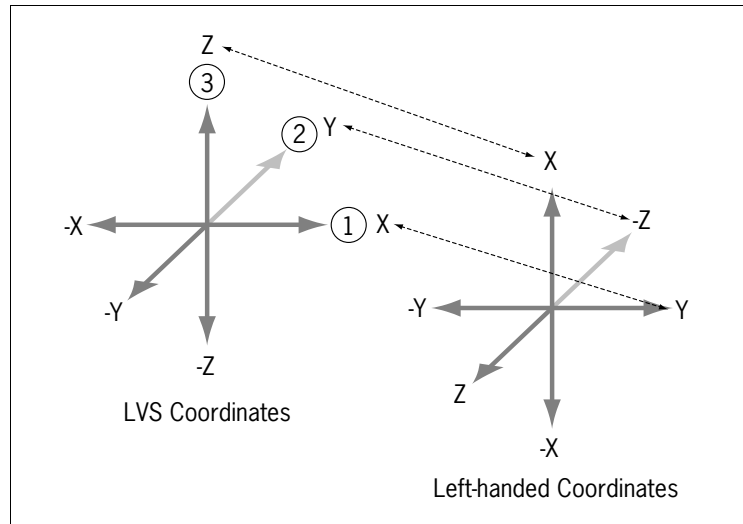

Figure 2-3. *Coordinate System Conversion Example*
1. Draw the positive axes of the two systems, as shown in Figure 2-3.